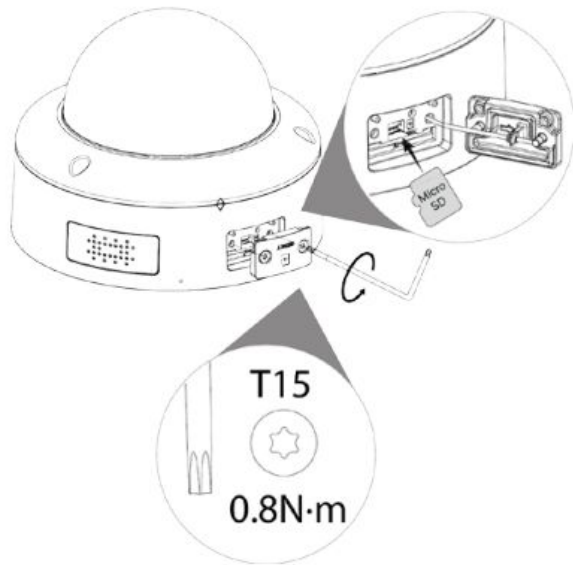

Figure 2-7
Step 1 Remove the Dome from the camera body. See Figure 2-7. Skip to Step 3 if only installing SD card.
Step 3 (If installing SD Card) Adjust the Micro SD Card to a proper direction shown in Figure 2-7.